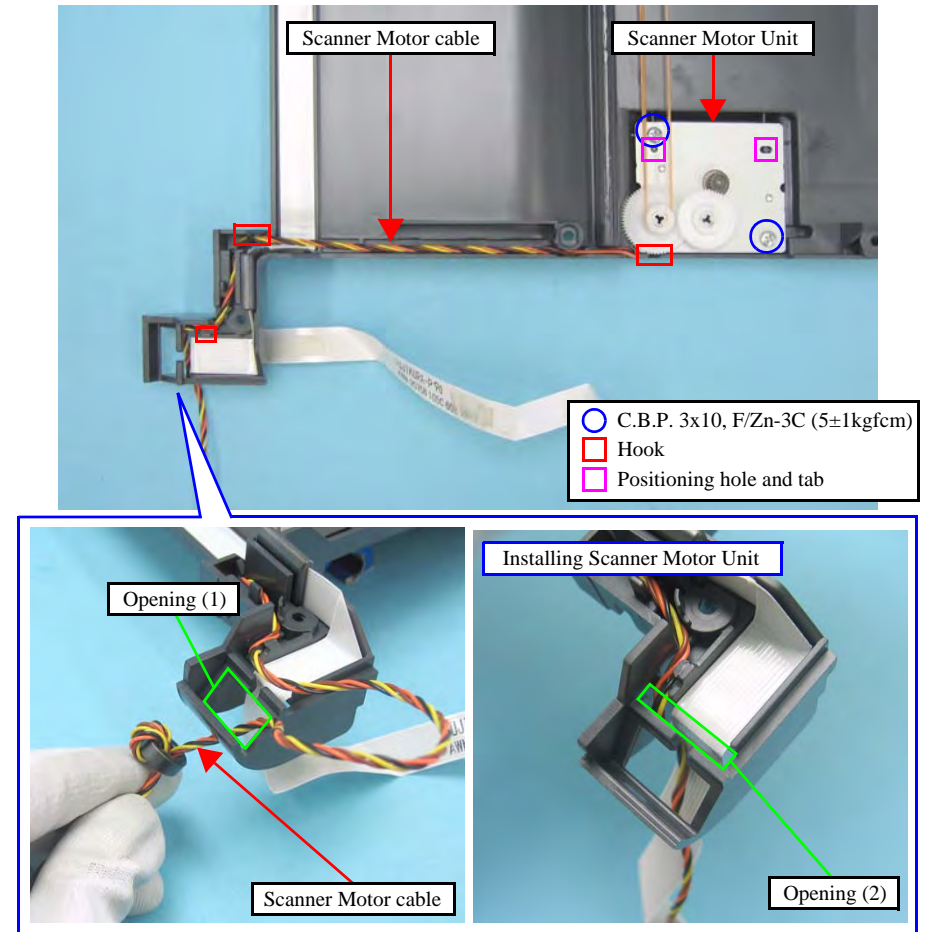

Figure 4-115. Removing the Scanner Motor Unit
- When installing the Scanner Motor Unit, match the positioning holes (x2) of the Scanner Motor Unit with their positioning tabs (x2) of the Lower Scanner Housing as shown in Figure 4-115.
- When routing the Scanner Motor cable, place the ferrite core in the opening (1) after leading the Scanner Motor cable through the opening (2) as shown in Figure 4-115.